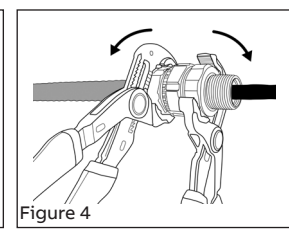

Figure 4
- Tighten the gland nut until you obtain an appropriate seal or to the maximum torque (see table). The bushing and collar ring should seal evenly around the cable's outer jacket and flush with gland nut face. Ensure the cable remains centered to obtain an optimal seal (Figure 4).